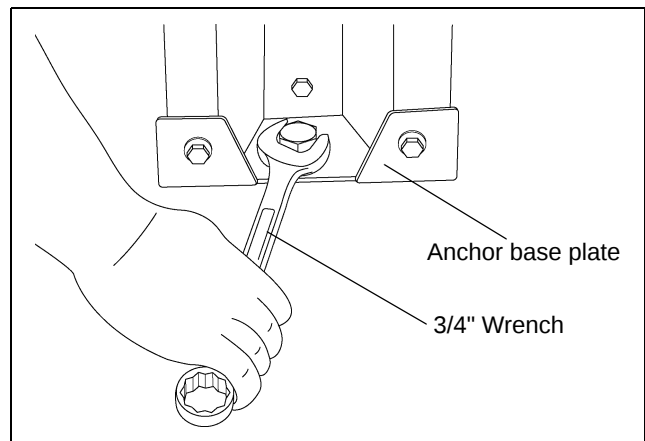

Figure 4A Removing Nut from Anchor Bolt
1. Use a 3/4" wrench or crescent to remove the nut and washer from the anchor bolt on the bin leg. (See Figure 4A.)